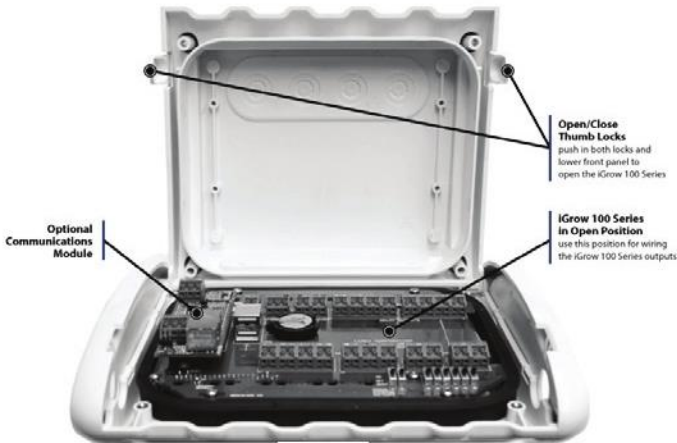

Figure 2.3 Proper finger positions for door opening
1. First, open up the front door, as shown in Figure 2.3.